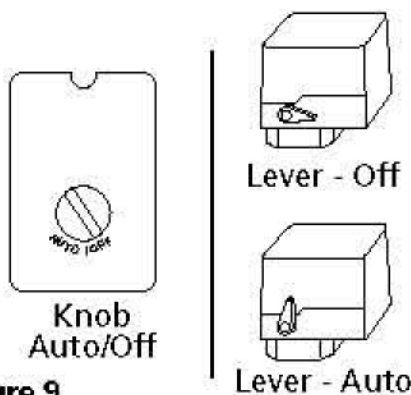

Figure 9
4) Turn the pressure switch lever or knob to AUTO and run the unit for 30 minutes to break in the pump parts (Fig 9).